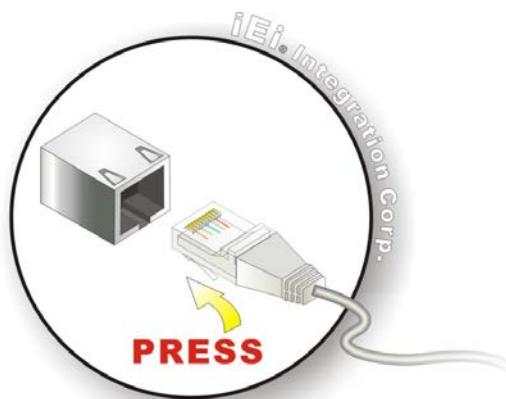

Figure 3-6: LAN Connection
Step 2: Align the connectors. Align the RJ-45 connector on the LAN cable with the RJ-45 connectors on the AFL3-W07A-BT. See **Figure 3-6**.